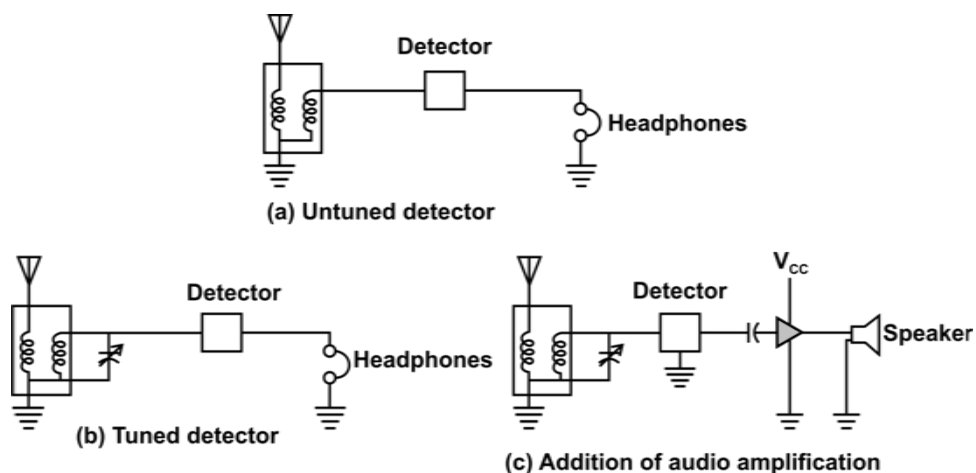

Fig. 10.10 Simple Receivers
- The simplest receiver would be a demodulator connected directly to an antenna, as in Figure 10.10(a). Any signal arriving at the antenna would be demodulated, and the detector output would be connected to sensitive headphones. Only strong signals received by a good antenna could be heard at all. In addition, this receiver would have no ability to discriminate against unwanted signals and noise and so would receive all local stations at once. Obviously the results would not be at all satisfactory.
- This receiver could be improved by adding a tuned circuit at the input, as shown in Figure 10.10 (b). This would provide some selectivity, that is, the receiver could be tuned to a particular station. Signals at the resonant frequency of the tuned circuit would be passed to the detector, and those at other frequencies would be attenuated. However, there is still no gain.
- The addition of an audio amplifier, as shown in Figure 10.10(c), could provide enough output power to operate a speaker. However, the selectivity would remain poor because of the single tuned circuit, and the receiver would not be sensitive enough to receive weak signals because a demodulator needs a relatively large input voltage to operate efficiently, with low noise and distortion. More sensitive detectors can be devised, but a better solution is to provide gain before the detector.